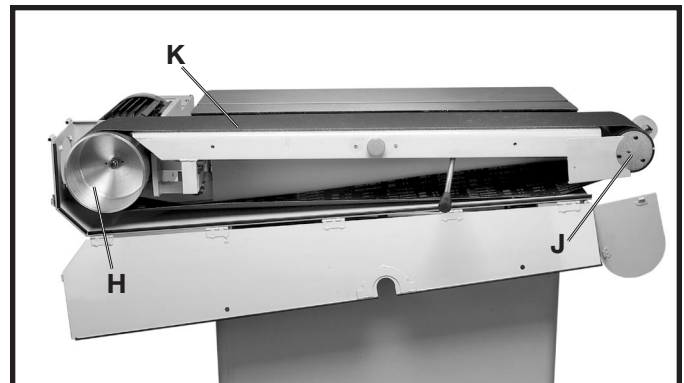

Fig. 9
5. **NOTE: MAKE SURE THE ROTATION ARROW ON THE INSIDE OF THE BELT IS POINTING IN THE SAME DIRECTION AS THE ROTATION ARROW ON THE MACHINE.** Place belt (K) over the two belt drums (H) and (J) Fig. 9. Make sure the belt is centered on the drums.